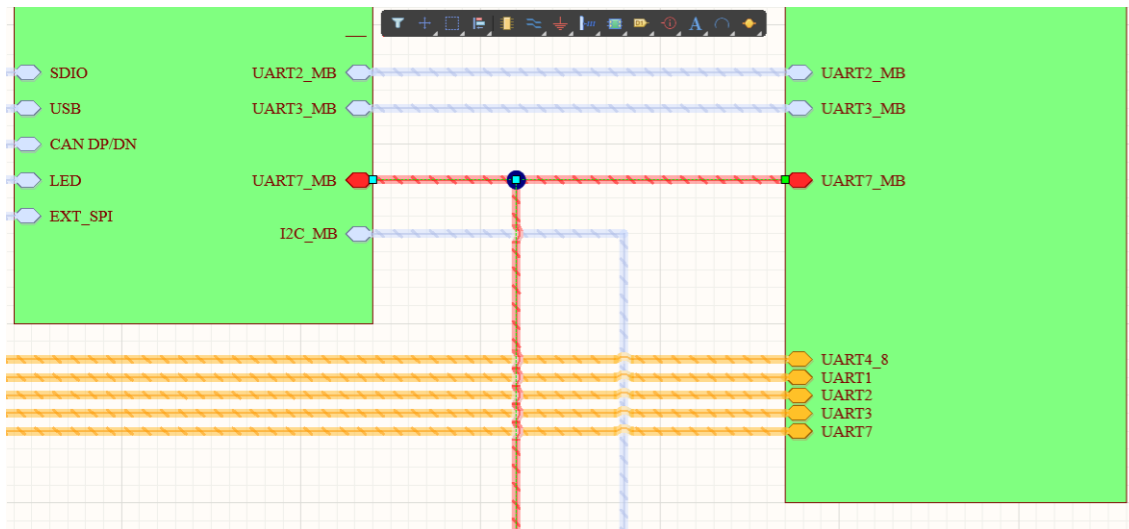

Figure 25. UART7_MB drawn in red
62. The connected Sheet Entry and Harness will automatically be updated with the new color similar to Figure 25.